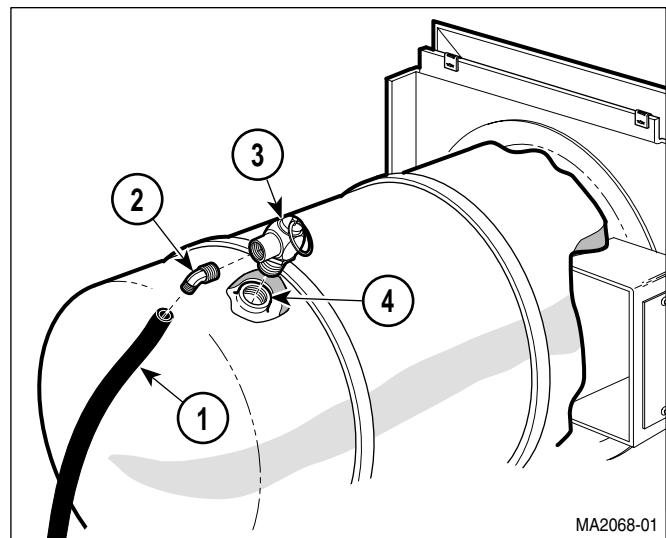

Figure 4-26. Pressure Relief Valve
- (1) Remove condensing tank assembly (Refer to para 4.22).
- (2) Disconnect tube (1, Figure 4-26) from elbow (2).
- (3) Remove elbow (2) from pressure relief valve (3).
- (4) Remove pressure relief valve (3) from pressure vessel (4).